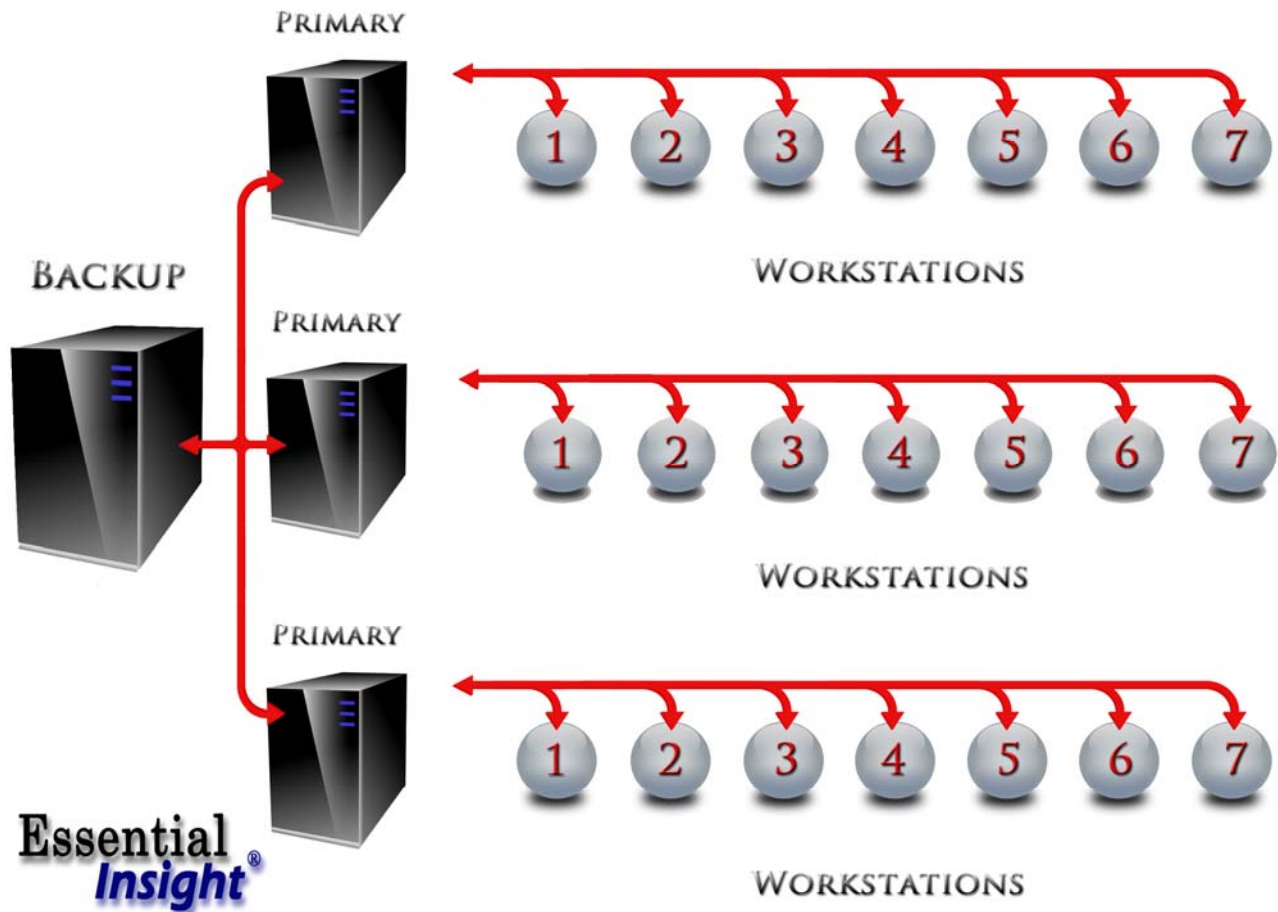

Figure 6
Let's extend our example yet again. Let's suppose the previous line was working so well, our user decides to extend it to the entire plant of three (3) lines as shown in Figure 6. One possible configuration is to simply replicate the hardware and software used on the single line example discussed previously. This is a straight forward solution, but a more cost effective solution is available. Essential Insight Server is not restricted to a single primary/backup configuration. Instead the system is configured such that a primary computer is assigned to each line, and each is backed up by a single enterprise class server backup computer. This 'heavy iron' machine would be available to run any line in the event of a primary machine failure and would allow the Portal to present production reports and transaction history on a plant wide basis. In the event the data is defined as mission critical and must be available online, another enterprise system can be configured to 'backup' the backup providing redundantly available data.